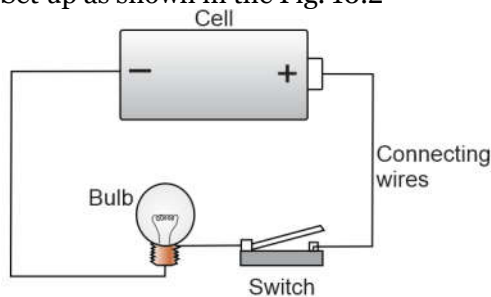
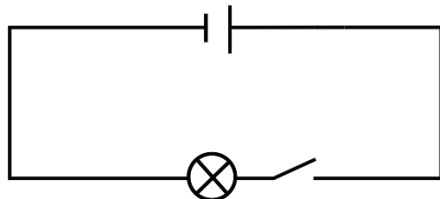

Fig. 10.2: A simple circuit
Fig. 10.3
- Set up as shown in the Fig. 10.2
Consider the set-up circuit as shown in Fig. 10.2. Drawing every component as it appears could be so cumbersome. It would also be difficult to represent the diagram neatly and clear. The same diagram can be drawn as shown in Fig. 10.3.